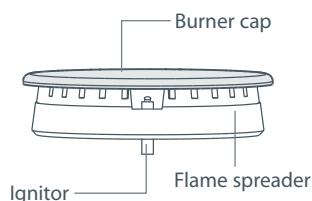

Fig.15 Burner parts
- positioned correctly, as shown in Figs. 15 and 16.